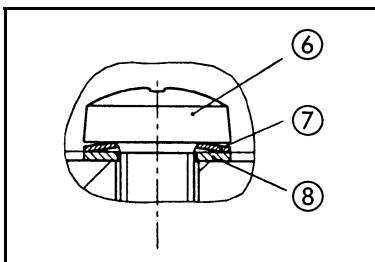

Fig. 19: Position and orientation of disk spring (7) and washer (8) at screw (6)
1. Place head plate (9) on intermediate plates (11), (14) and (15) in the position indicated by the drawing lines.
2. Tighten the three screws (6) of head plate (9) carefully slightly hand-tight (tightening torque: 0.6 Nm).
- ➔ For position and orientation of disk spring (7) and washer (8) of screw (6) see fig. 19.
3. Place head cover (3) on pump housing (19).
4. Tighten the nine screws (2) of head cover (3) slightly in the first instance. Start with the screws of medium pump stage, then tighten the screws on the right, and finally on the left.
5. Now, tighten the screws (2) firmly (tightening torque: 6 Nm); tighten the center screws first, then continue outward.